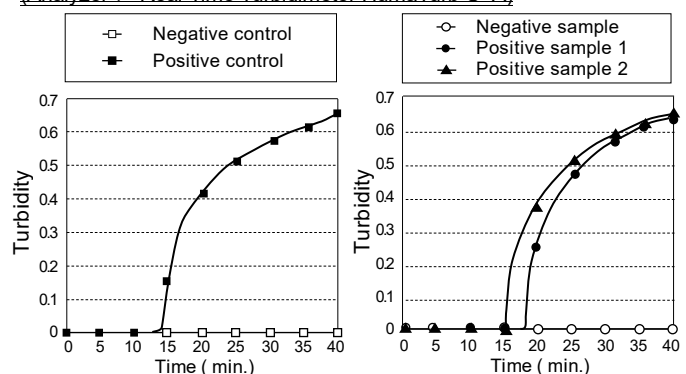

Fig. 1 : Amplification plots for controls. Fig. 2 : Amplification plots for samples.
- (1) Configure the Real-Time Turbidimeter HumaTurb C+A for detection with this product.
- (2) Check whether the displayed temperature reaches 65.0 °C (allow the turbidimeter to warm up for 20 minutes before use).
- (3) Place the reaction tubes and start measurement.
- (4) Watch the turbidimeter display to check the positive and negative controls for any increase in the turbidity. If the turbidity increases in the positive control but not in the negative control, the amplification reaction is proceeding correctly (Fig. 1). If this is not the case, the amplification reaction might be proceeding in the wrong way. In such a case, retest the affected samples.
- (5) Confirm the completion of polymerase inactivation (automatically completed by the turbidimeter). Take all reaction tubes out of the Real-Time Turbidimeter HumaTurb C+A and discard them without opening.
After confirming that the turbidity increases in the positive control but not in the negative control, evaluate samples per the following criteria (Figs. 1 and 2).